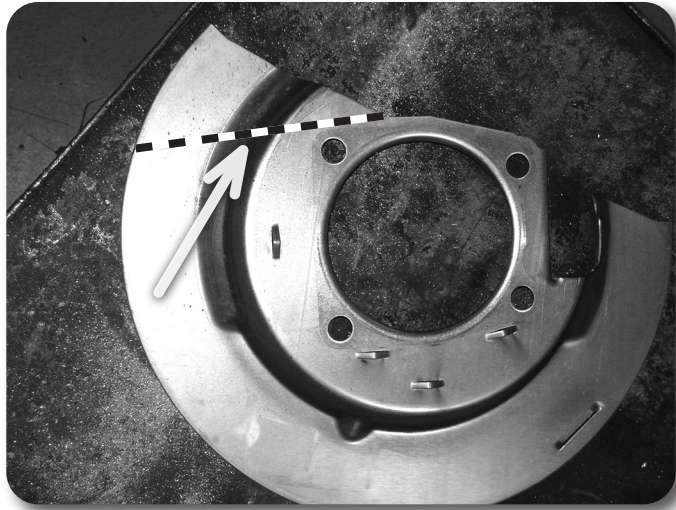

Figure 37
54. Locate the factory driver's and passenger's brake dust shields. They need to be modified to provided adequate brake caliper clearance. Make a cut line by following the straight edge on the caliper side of the shield all the way to the bottom edge of the shield. Figure 37 Cut the shield along the line.